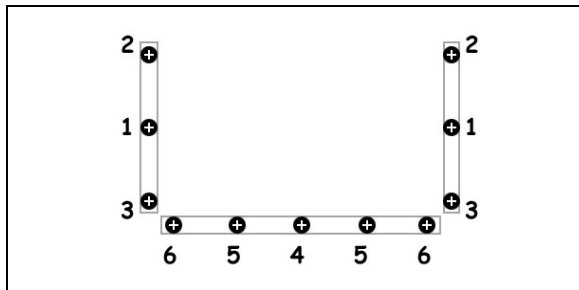

FIGURE 67: CORRECT TIGHTENING SEQUENCE
9. While a helper is pressing on the window from outside, install the awning window clamping frame and tighten screws according to the sequence shown in FIGURE 67.